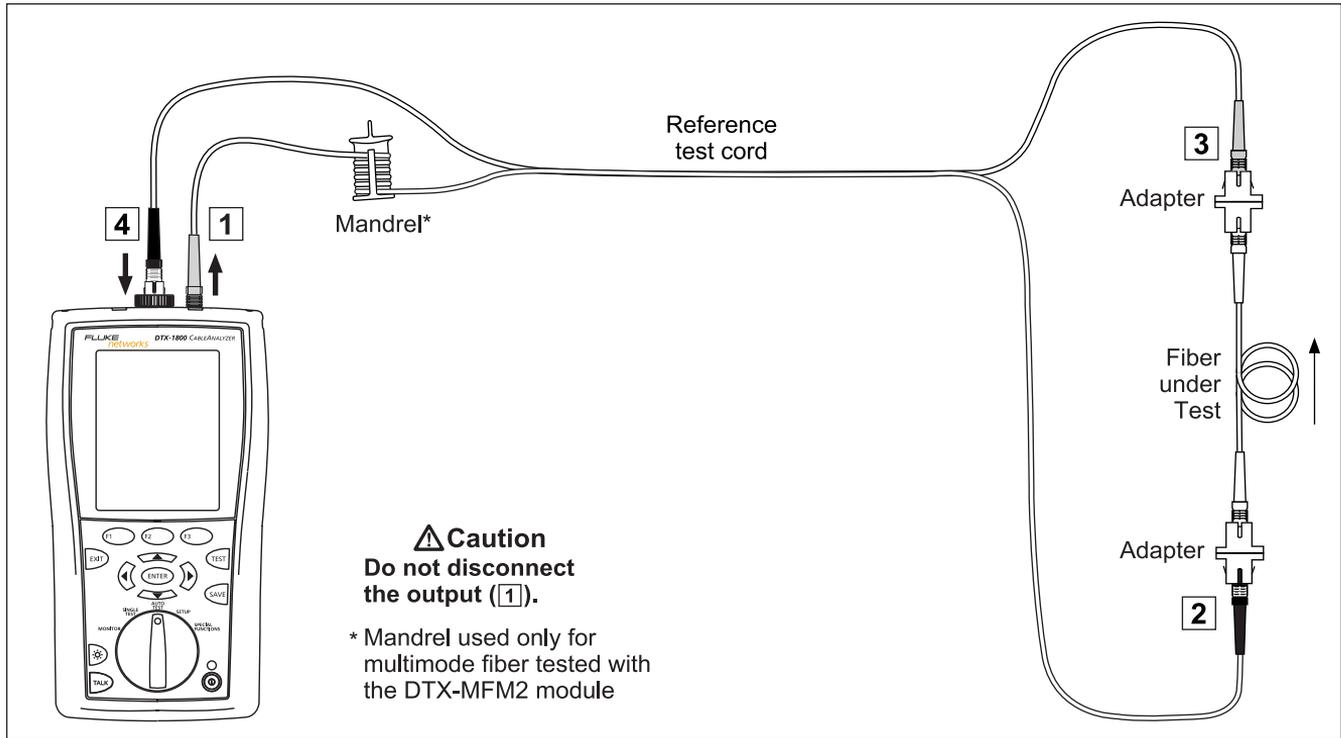

Figure 6-14. Loopback Mode Test Connections (Method B)
- 4 Connect the tester to the cabling. Figure 6-14 shows connections for Method B.